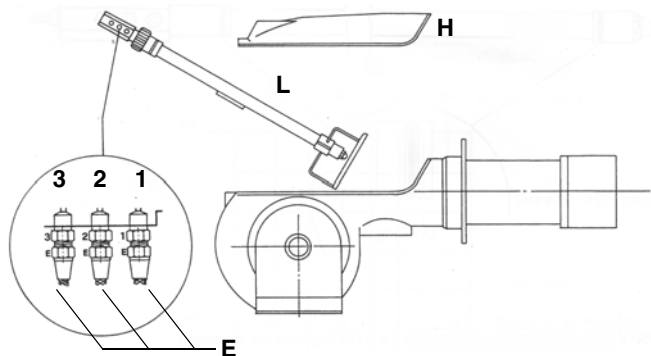
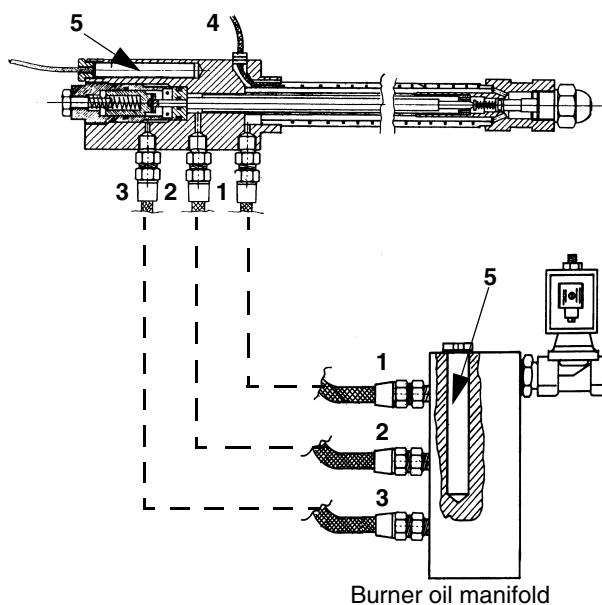

Fig. 31
Fig. 32
- Unscrew the oil connections E (Fig. 31) connecting the flexible pipes to the gun L and remove the whole assembly as shown on Fig. 32.